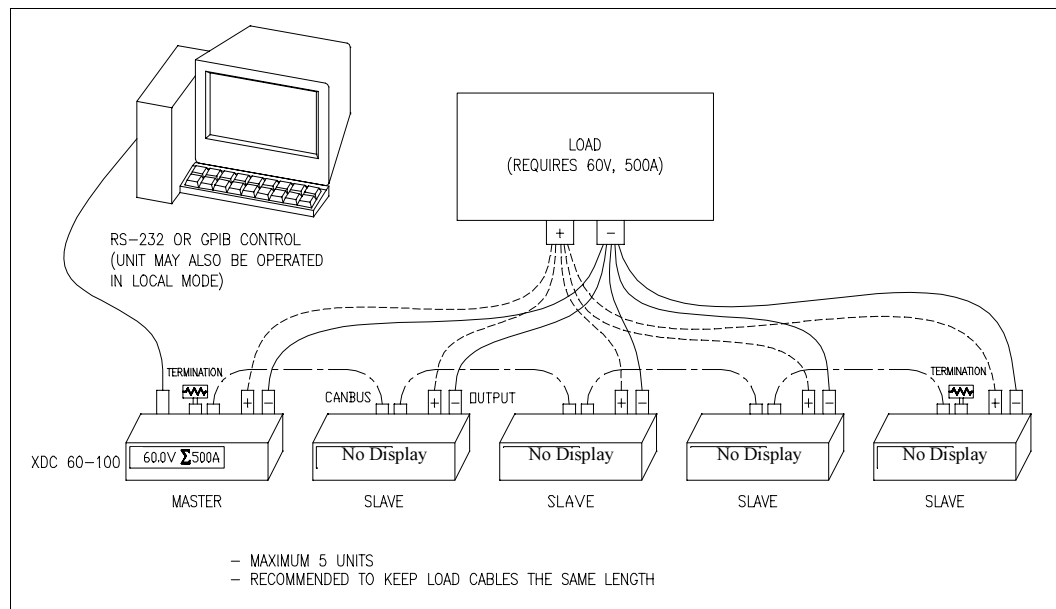

Figure 3.1 Connections for Current Share Operation
2. Make load connections. It is recommended to keep load cables the same length if possible. See Figure 3.1.